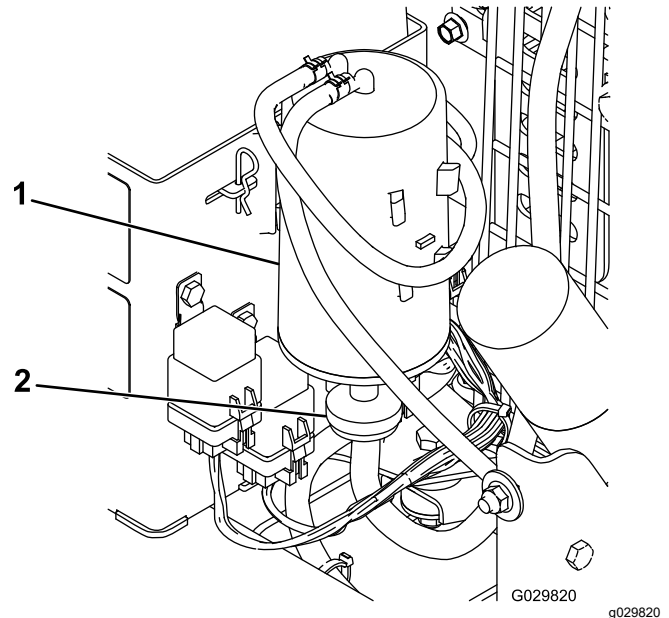

Figure 20
2. Remove and discard the carbon canister air filter, but retain the hoses (Figure 20).